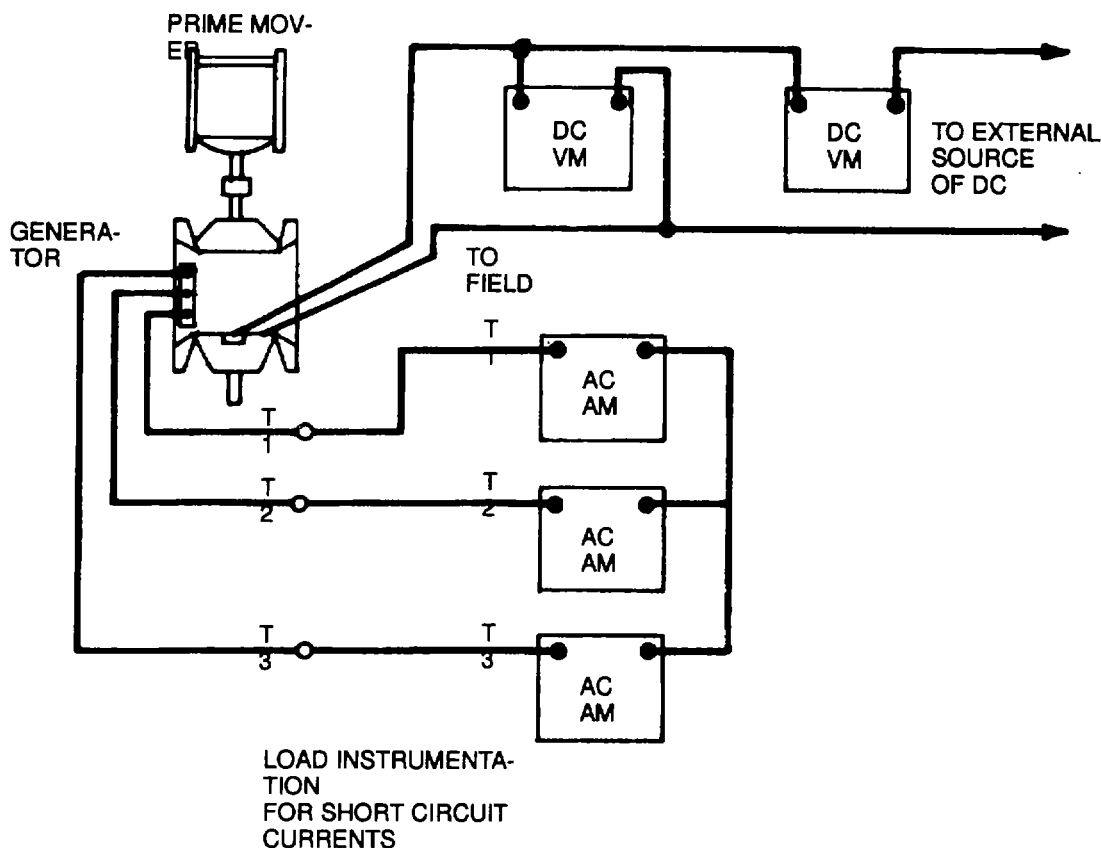

Figure 12-5. Load Instrumentation (Sheet 2 of 2)
- (1) Connect the load instrumentation in accordance with Figure 12-5.
- (2) Level the generator set.
- (3) Fill the generator set fuel tank using the fuel transfer pump.
- (4) Disconnect the auxiliary fuel lines from the external fuel tank
- (5) Start and operate the generator set at rated load, voltage, and frequency. Simultaneously start the stopwatch.
- (6) Note the exact time the LOW FUEL ENG FAULT indicator lights up. This should indicate that there is enough fuel in the fuel tank to operate the set at rated load and frequency for 35 minutes.
- (7) Continue operating the set for approximately 35 minutes until the low fuel level switch FL3 shuts down the generator set. Record the time when FL3 actuates and shuts down the set.
- (8) If FL3 does not actuate within 35 minutes after the LOW FUEL ENGINE fault indicator lights up, FL3 is faulty or the timer on time delay (low fuel level shutdown) relay K23 is set too high. Shut down the generator set immediately and reset the timer, or replace FL3.
- b. Apparatus. Instrumentation for measuring load conditions shall be as illustrated in Figure 12-5. In addition, a noninductive shunt, a short-circuiting switch, a galvanometer matching network an oscillograph, and galvanometers having a flat frequency response (flat within plus or minus 5 percent) from DC to 3,000 Hz will be required.
- (1) Preparation for Test.
- (a) Connect the load and instrumentation in accordance with Figure 12-5 and Figure 12-6, for one voltage and frequency.
- (2) Test.
- b. Apparatus. Instrumentation for measuring load conditions and field voltage and current shall be as illustrated in Figure 12-5. In addition, a stopwatch or an oscillograph with galvanometer matching network and a noninductive shunt, and galvanometers having a flat frequency response (within plus or minus 5 percent) from DC to 3,000 Hz are required.
- (1) Preparation for test. Connect the load and field instrumentation in accordance with Figure 12-3 and Figure 12-5, for one voltage and frequency.